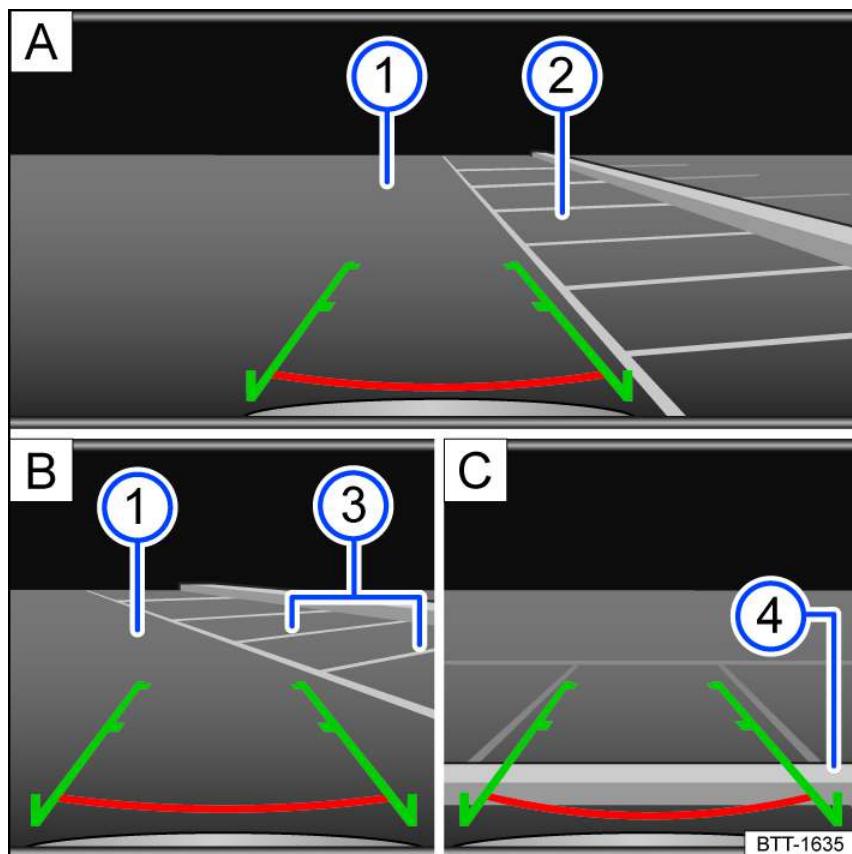

Fig. 115 Infotainment system: Parking with the Rear View Camera system.
① Road surface.
② Selected parking space.
③ Side boundaries of the selected parking space.
④ Rear boundary of the parking space.
1. Position your vehicle in front of the parking space *fig. 115* **A** ②.
3. Slowly reverse while steering so that the green side lines line up with the selected parking space. The green lines must line up with the side boundaries of your parking space *fig. 115* **B** ③.
4. Stop when the red horizontal line reaches the rear boundary *fig. 115* **C** ④.